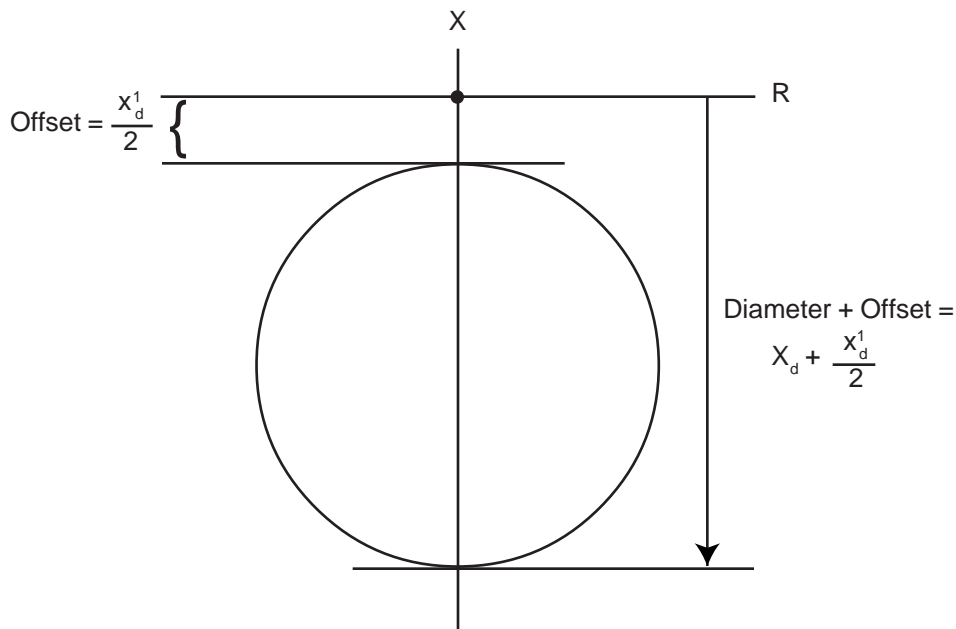

Figure 1-9. Single Zone Scheme
The most common scheme uses a single element to measure the impedance as viewed at the generator's terminals. The mho circle is selected to encompass the final operating point of the machine, and must be sized to include impedance trajectories where the machine was lightly loaded and heavily loaded at the time excitation was lost. The size and placement of the circle on the R-X plane is based on the transient reactance (X_d^1) and synchronous reactance (X_d) of the machine, and is shown in Figure 1-9.
9. Determine Settings for Function 40T (refer to Figure1-9)	9. Set Offset = 2.0 ohms Set Diameter + Offset = 27 ohms